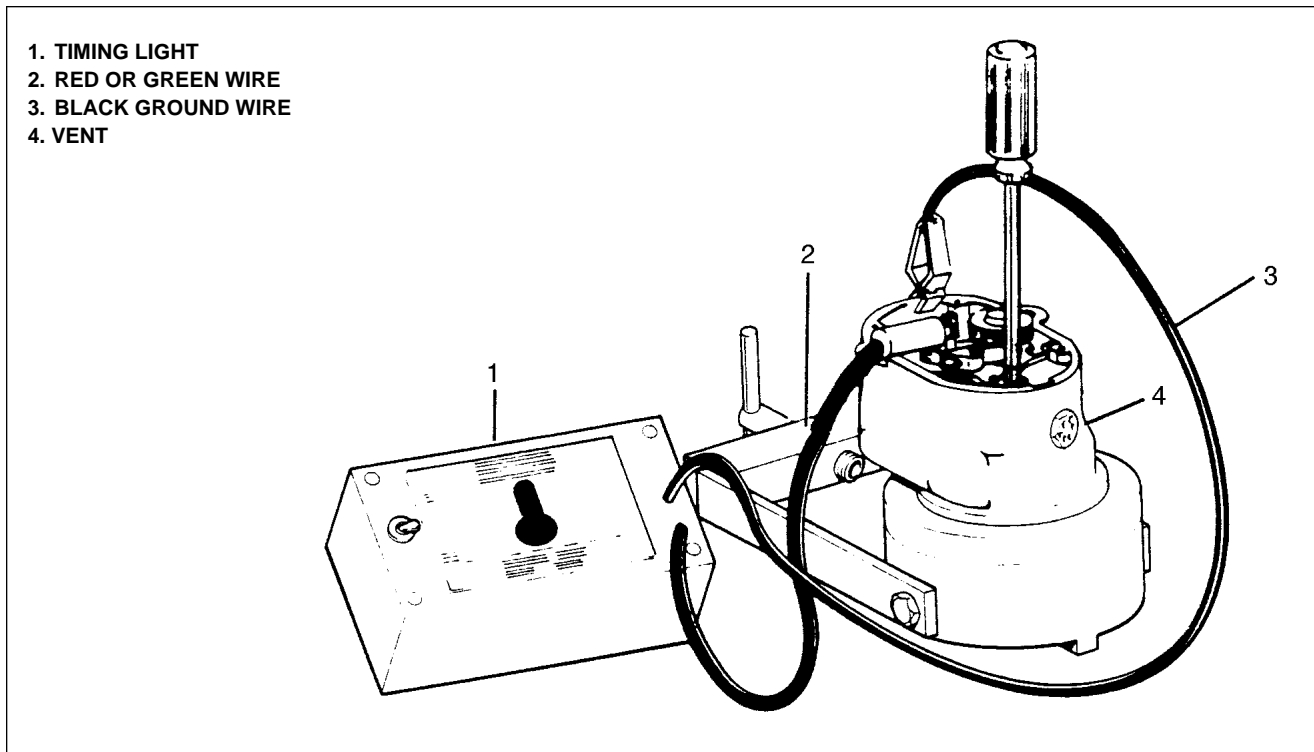

Figure 8-13. Timing Magneto Internally and Assembly
p. Time the magneto internally by placing the magneto on the T-100 assembly and timing tool hole. (Refer to Figure 8-13.) Make sure the coupling lugs are in the slots of the index plate. Swing the frame counterclockwise against the pin to line up the rotor and cam for E gap position.
q. Attach either the red or green wire of the timing light to the bronze point terminal and the black wire to the frame of the magneto. (Refer to Figure 8-13.) With a screwdriver, adjust the points so the timing light indicates point openings. Check that points are open to gap of 0.008 - 0.010 inch. Secure the points by tightening the screws. Attach the coil wire to the vertical bronze male terminal of the point assembly.